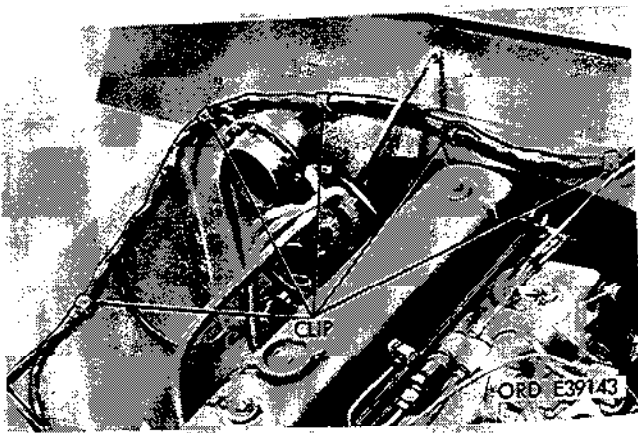

Figure 2-230. Remove harness assembly.
(15) Remove harness assembly from five clips on right side of engine compartment (fig. 2-230).